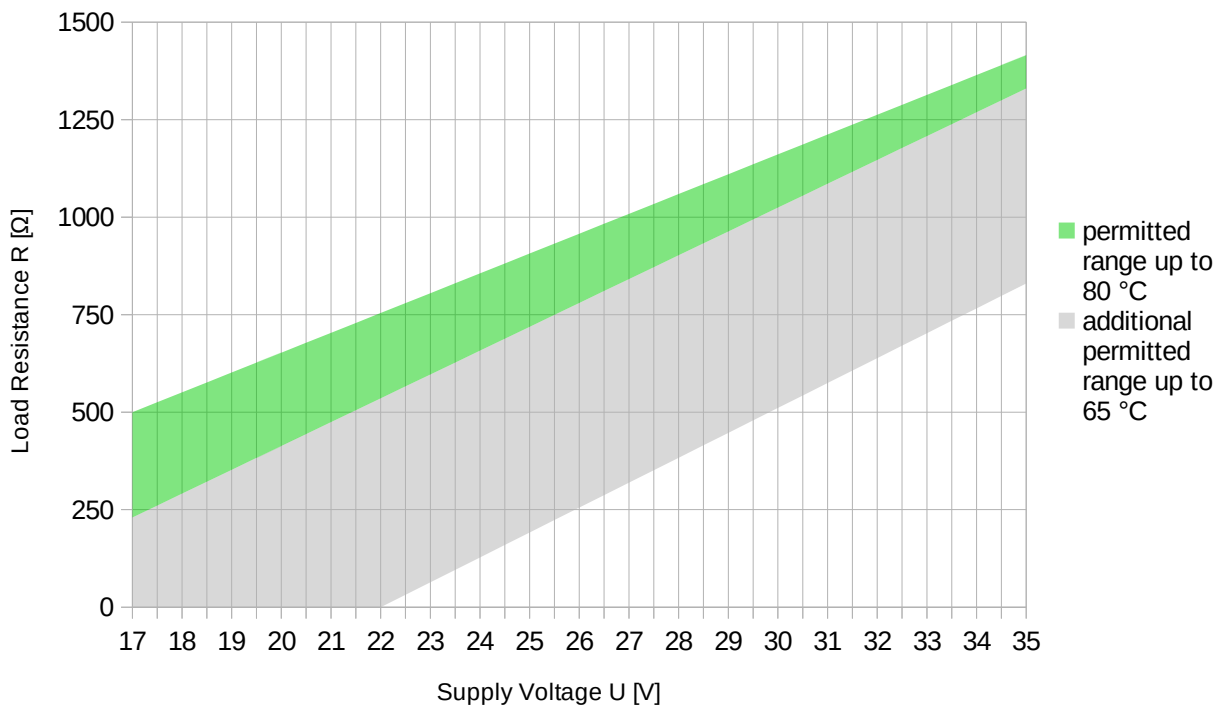

Figure 2: Permitted Load Resistance IS1BP360-I-CL + IS2BP090-I-CL
Outputs (short-circuit proof)	inductive load less than 1 H, permitted load resistance depends on supply voltage, see table 3 and figure 2
- For full temperature range up to 80 °C limited combinations of supply voltage and load resistance are permitted only, see figure 2.
Power dissipation depends on supply voltage and the load resistance. To reduce power dissipation, which may cause overheating, the load resistor should be chosen according to supply voltage. Table 3 and figure 2 show the relation between supply voltage and the permitted load resistance for different temperature ranges.
The green area in figure 2 shows the permitted load resistance depending on supply voltage for operating temperatures up to 80 °C. Combinations of supply voltage and load resistor within the gray colored area are permitted for a limited operating temperature range up to 65°C in addition.